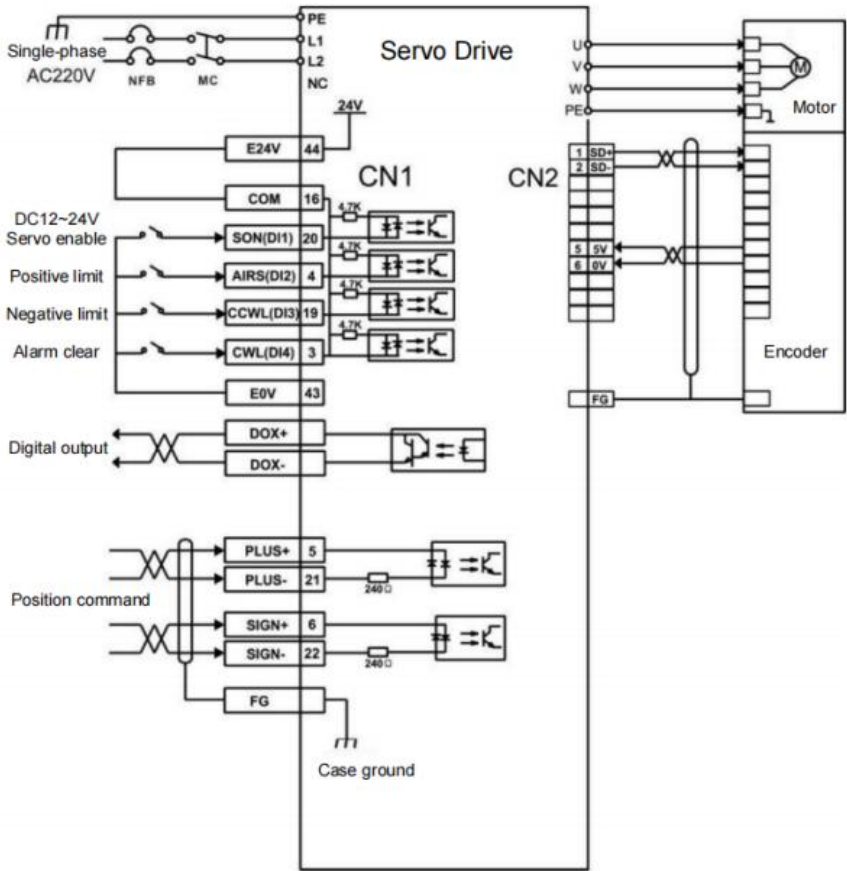

Figure 5.2 Wiring Diagram of Position Mode
- 3) Refer to Figure 5.2 for wiring instructions to connect the pulse direction input and pulse command input in the CN1 terminal and the required DI/DO signals, such as servo enable, alarm clear, positioning completion signal, etc.